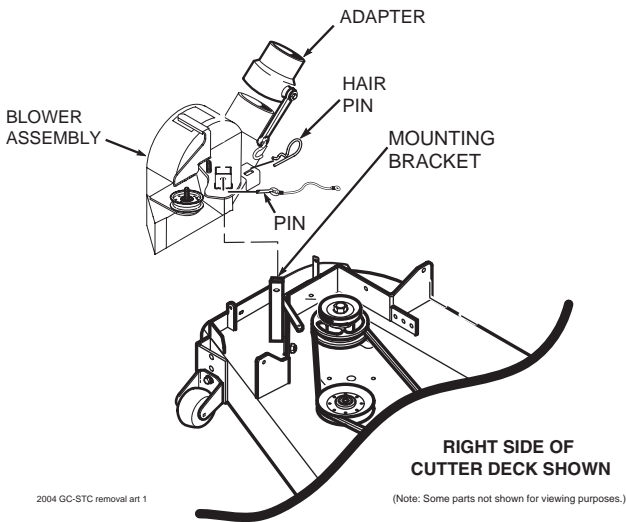

FIGURE 4-1
2. Remove the rubber strap holding the adapter to the blower assembly. See Figure 4-1.
3. Remove the pin and hair pin holding the blower assembly to the mounting bracket on the cutter deck and remove the blower assembly. See Figure 4-1.